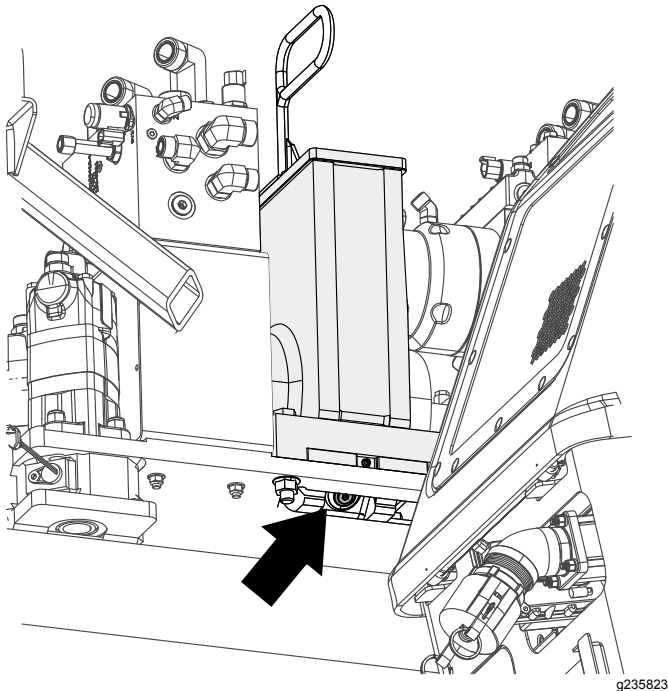

Figure 101
3. Remove the drain plug and drain the oil (Figure 101).